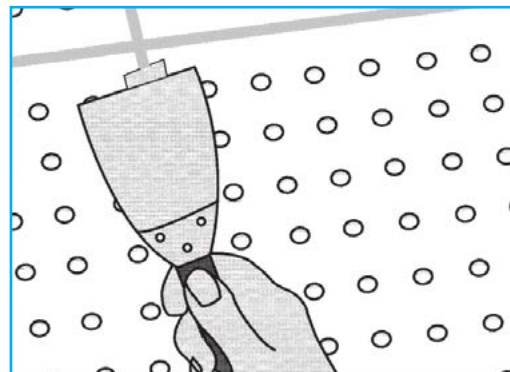

FIGURE 16 Finishing
- Use Mastalite for finishing joints and screw heads. *[Figure 16 and 17]*